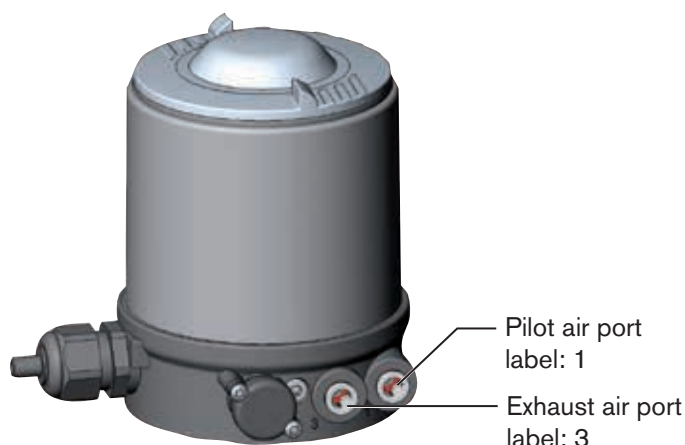

Figure 19: Pneumatic connection
- Attach the exhaust airline or a silencer to the exhaust air port (3) (see "Figure 19").